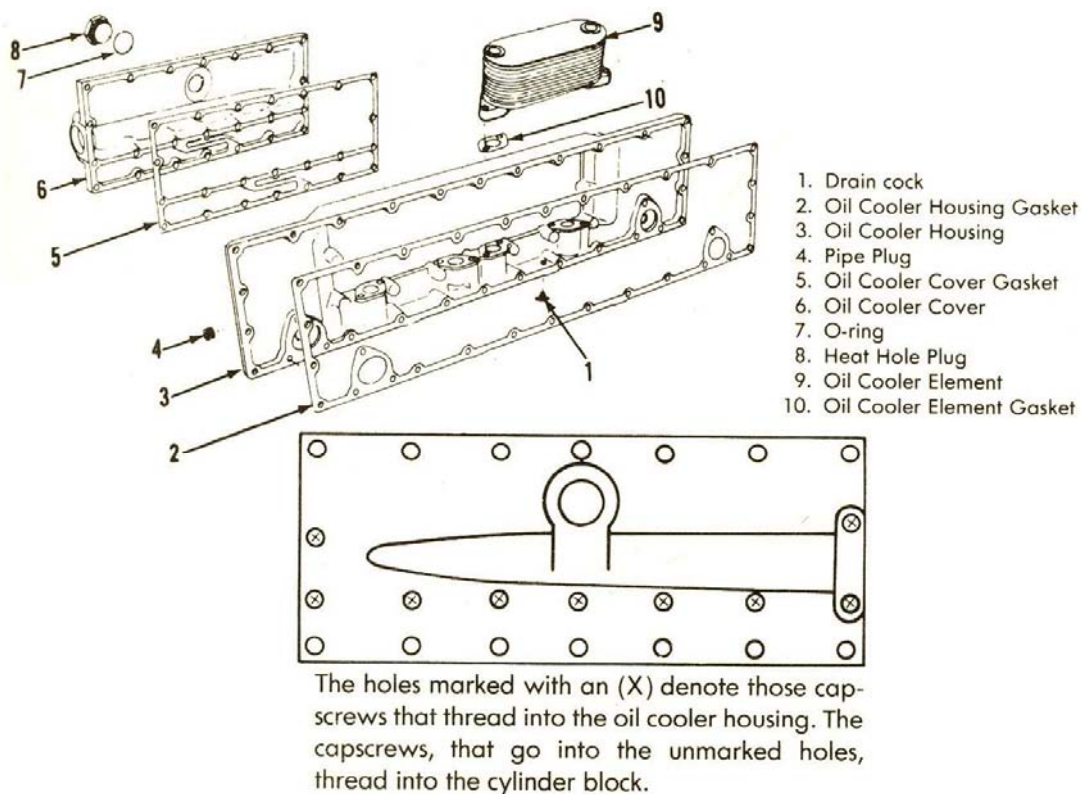

Fig. 7-7. Lubricating oil cooler
2. Ream out the cap screw from the oil cooler cover (6) and housing (3). Fig. 7-7.
3. Remove capscrews attaching the element (9) to the cooler housing (3). Remove elements.
- a. Use new gaskets (2, 5 and 10, Fig. 7-7) and the O-rings (7 and 11). Lubricate the O-rings with clean engine lubricating oil. Install the elements (9) in the housing (3).